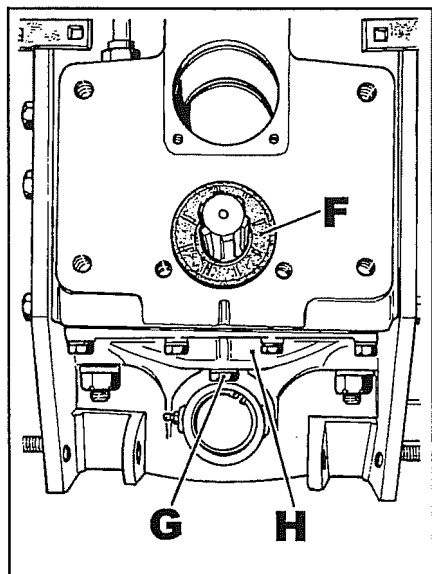

Fig. 22
- 14 Drain the oil out through plug **G** fig. 22.
26 Remove oil seal **F** fig. 22 and the snap ring underneath.
27 Remove bottom cover **H** fig. 22.